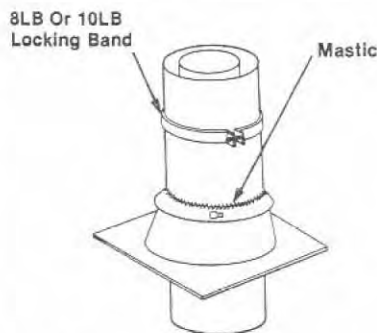

Figure 34
**Step 9:** Superior locking bands (Models 8LB or 10LB) may be required if chimney extends too high above the roof/ flashing. As a general rule, if the chimney extends more than 6' (1.8 m) above the roof/ flashing, the use of locking bands is advisable to strengthen the chimney joints. Align locking band (one per pipe joint) at the pipe joint – locking band wraps around pipe joint, equally covering the joint of both pipe sections. Use nut provided and TIGHTEN snugly. Do not over tighten as this may damage flue section (Figure 34).